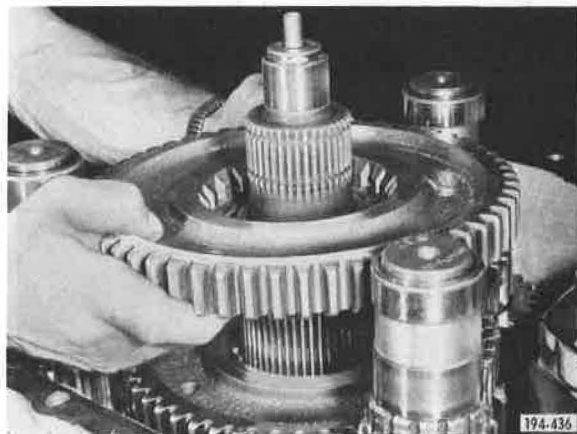

Figure 358. Installing First Speed Gear
17. Secure first speed gear thrust washer to the front face of the first speed gear with a light coat of grease, and then install the first speed gear and thrust washer (beveled side of clutch teeth toward rear of transmission), and engage with countershaft first speed gears. See Figure 358.